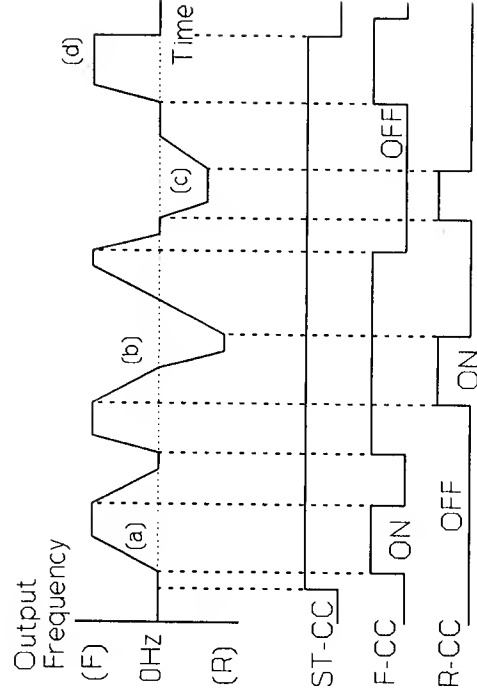

Figure 9.9 Example of Forward/Reverse Run
Use the following procedures to operate the drive by using remote signals on these terminals. See Figure 9.9 below for an example of using contacts on the ST, F, and R terminals to initiate forward and reverse run.
5. "Forward run" will be activated as shown in Figure 9.9, (a)
6. The motor will "reverse run" in Figure 9.9, (b) if both the F-CC switch and R-CC switch are ON.
7. The motor will "reverse run" in Figure 9.9, (c).
8. When the ST-CC switch is turned OFF, the motor will "coast to stop" as shown in Figure 9.9, (d).